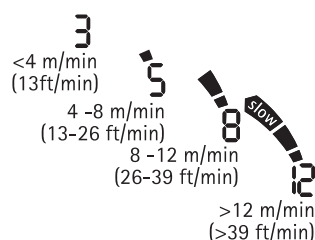

Fig. 31
At the same time as the audible alarm is triggered, the computer begins monitoring an "Uncontrolled Ascent". An ascent is considered "uncontrolled" when the diver exceeds the maximum rate for a stretch equal to at least two thirds of the depth at which the audible alarm was triggered. This criterion only applies to alarms triggered below a depth of 12 m (39 ft). In case of an uncontrolled ascent, on surfacing Nemo Excel disables the Air and Nitrox functions of Dive Mode, and will only function as a timer and depth gauge (BT). The other operating modes remain active (fig. 31). The "Stop" on uncontrolled ascent function can be disabled in Set Dive mode.